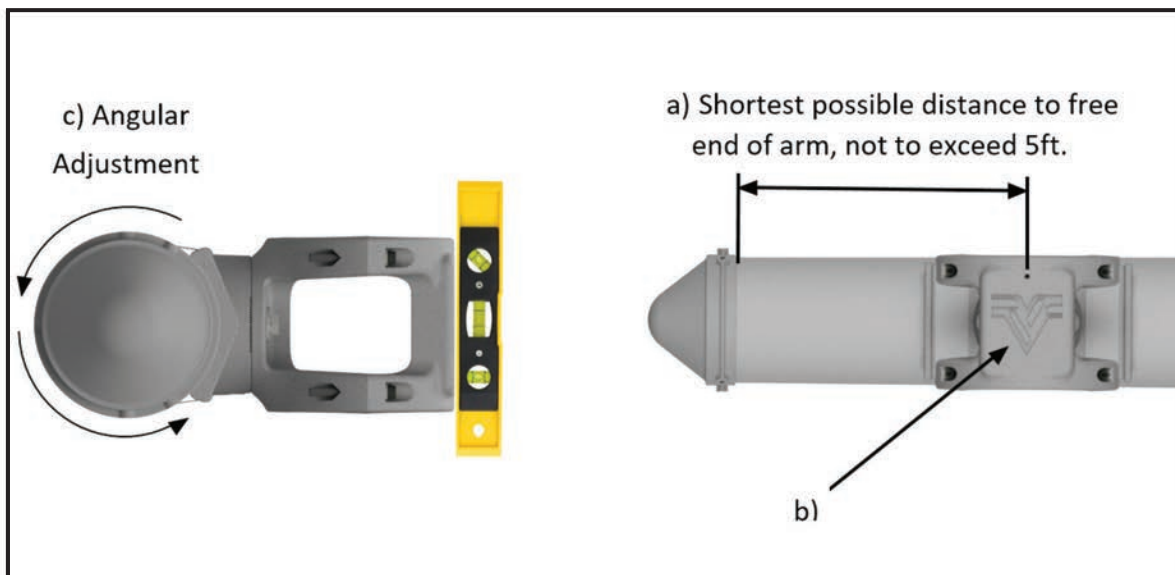

Figure 2
2) REMOVE THE CLAMP FROM THE BOX AND BAND THE CLAMP ONTO THE ARM USING 3/4" TO 1-1/4" HEAVY DUTY STAINLESS STEEL BANDS (NOT INCLUDED) AND APPLY THE FOLLOWING: (See Figure 2)